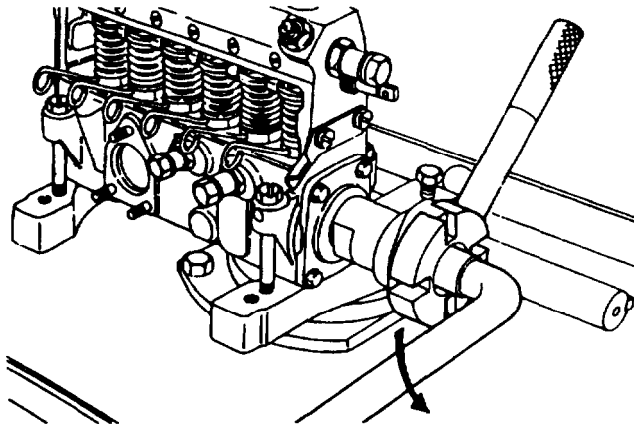

FIGURE 3-12. Removing Coupling (Typical)
- r. Remove coupling from camshaft using spanner wrench and socket wrench, refer to FIGURE 3-12.